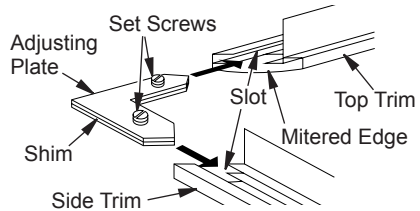

Figure 13 - Assembling Perimeter Trim
3. Align shim under adjusting plate as shown in Figure 13.
4. Slide one end of adjusting plate/shim in slot on mitered edge of top trim (see Figure 13).
5. Slide other end of adjusting plate/shim in slot on mitered edge of side perimeter trim (see Figure 13).